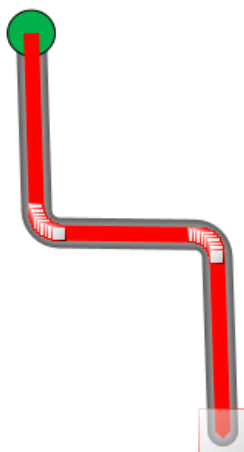

Figure 5 - Location Dynamic Mapped to Path of the Pipe Control
12. It may not be apparent at this time what has just occurred, but if you select the Ellipse's Location Dynamic and click **Edit Dynamic On-Screen** at the bottom of the properties window you will see something similar to Figure 5.